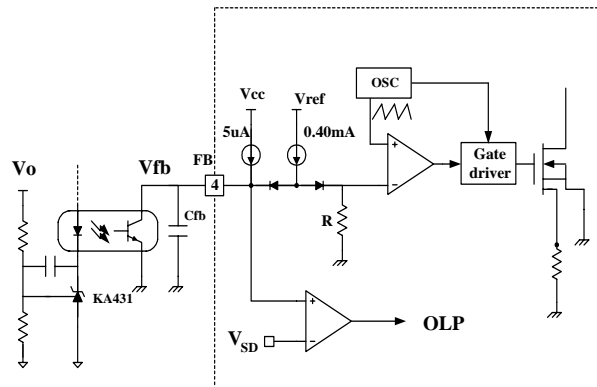

Figure 6. PWM and feedback circuit
**2. Feedback Control :** The FSDM311 are the voltage mode devices as shown in Figure 6. Usually, an opto-coupler and KA431 type voltage reference are used to implement the feedback network. The feedback voltage is compared with an internally generated sawtooth waveform. This directly controls the duty cycle. When the KA431 reference pin voltage exceeds the internal reference voltage of 2.5V, the opto-coupler LED current increase pulling down the feedback voltage and reducing the duty cycle. This will happen when the input voltage increases or the output load decreases.